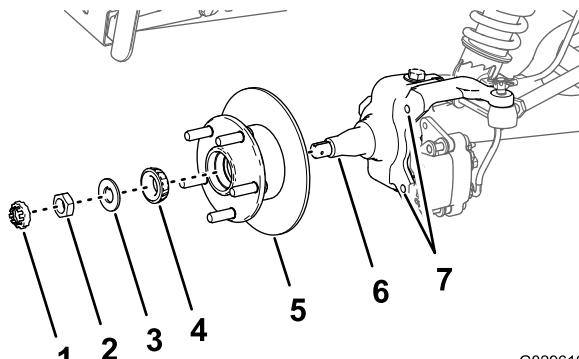

Figure 35
1. Apply a light coat of the specified grease to the spindle (Figure 35).
2. Assemble the hub and rotor onto the spindle with the rotor inboard (Figure 35).
3. Assemble the outboard bearing onto the spindle and seat the bearing to the outboard race (Figure 35).
4. Assemble the tab washer onto the spindle (Figure 35).
5. Thread the spindle nut onto the spindle and tighten the nut while rotating the hub (Figure 35).
2. Align the brake pads to either side of the rotor (Figure 31) and the holes in the caliper bracket with the holes in the brake mount of the spindle frame (Figure 35).